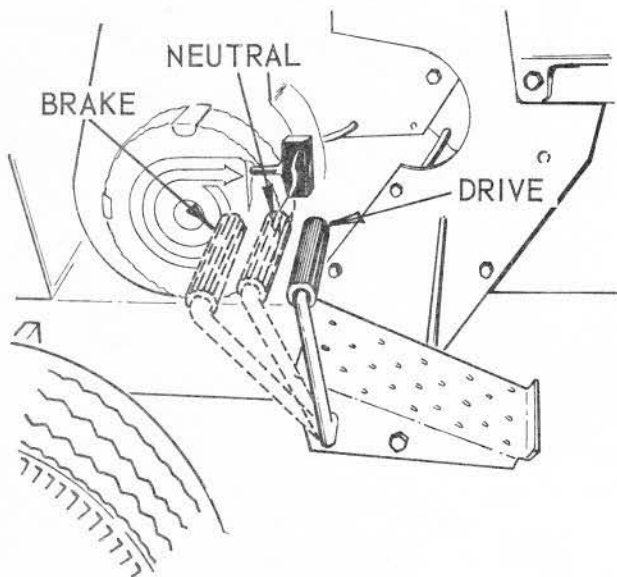

FIG. 2
- Depress foot pedal, refer to Fig. 2, to neutral position. THIS IS ESPECIALLY HELPFUL IN COLD WEATHER. Release park brake (C, Fig. 5).